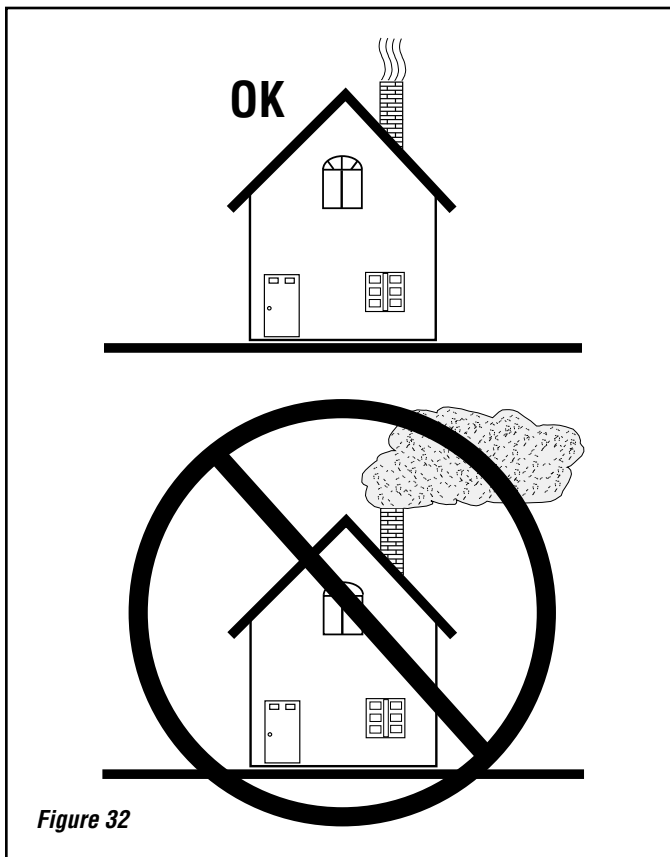

Figure 32
7. For best results, use smaller pieces of wood to get the stove or fireplace insert temperature very high before loading larger wood for sustained burns. If necessary, crack the door to allow ignition of the fuel charge. Now you can add larger pieces of wood and after several minutes of high burn, set the left control for the desired heat output. Check the exhaust in about 15 to 20 minutes (*see Figure 32*). Large amounts of smoke indicate an improper burn setting (either too high or too low). Adjust and recheck in 5 to 10 minutes.
6. Go outside and check your chimney. More than a very small amount of smoke indicates wasted heat, creosote build up and pollution (*see Figure 32*).